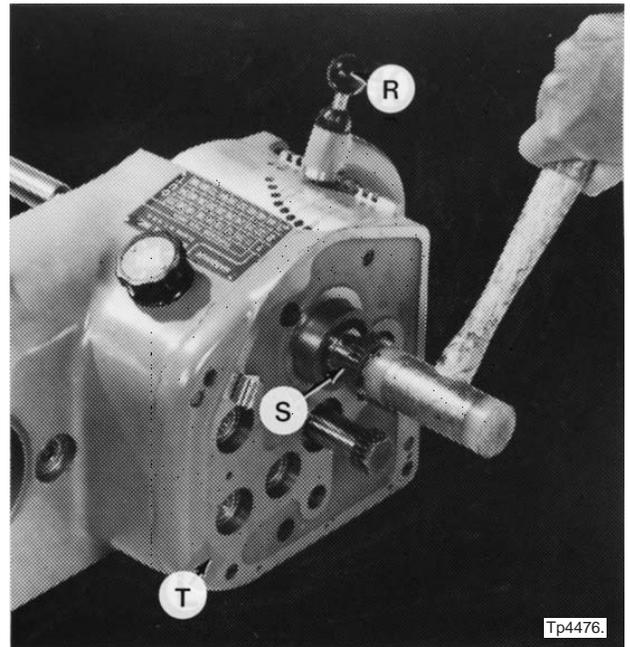

Figure 4.20 - Cluster Shaft Removal from Cover
10. Place shifter shaft "R", Figure 4.20, out of mesh as shown.